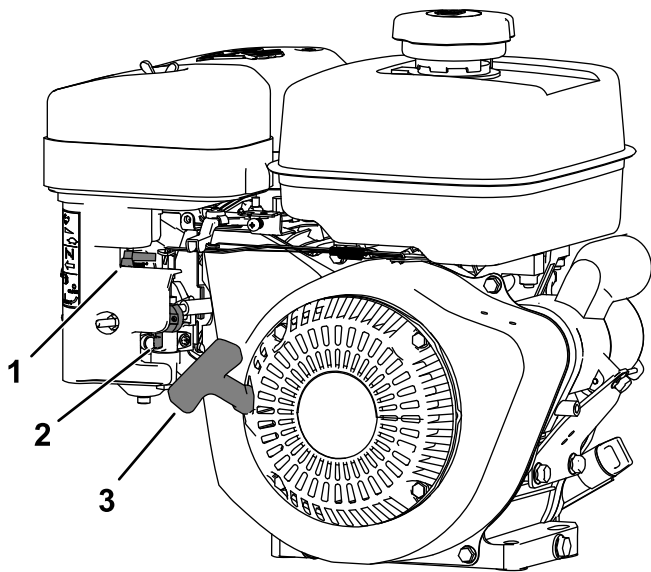

Figure 8
The choke control is located at the left side of the control console; you use it to help start a cold engine (Figure 8).
The fuel-shut-off valve is located at the front, right side of the engine below the fuel tank (Figure 8).
3. Clean around the fuel-tank cap and remove it (Figure 8).
4. Fill the tank with fuel (Figure 8) to within 6 to 13 mm (1/4 to 1/2 inch) from the top of the tank. **Do not fill into the filler neck of the tank.**